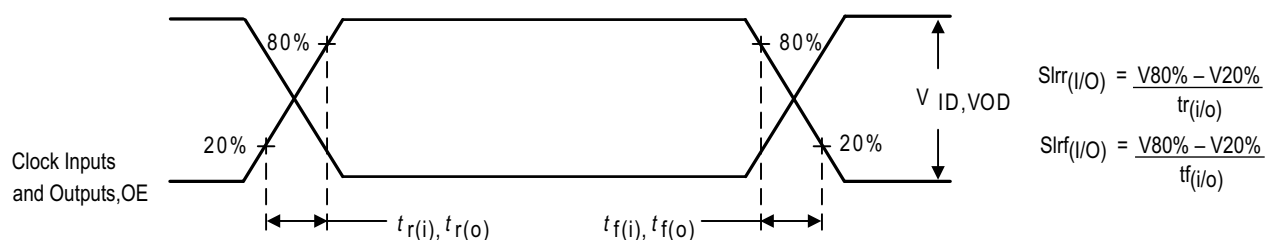

Figure 9. Input and Output Slew Rates
5. V_{ID} is the magnitude of the difference between the input level on CK and the input level on $\overline{CK}$, see Figure 9 for definition. The CK and $\overline{CK}$, V_{IH} and V_{IL} limits are used to define the DC low and high levels for the logic detect state.